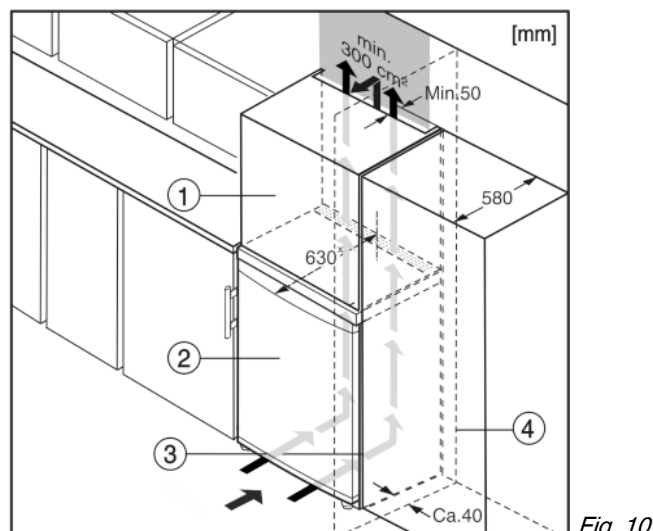

Fig. 10
The appliance can be built into kitchen units. A top cupboard Fig. 10 (2) can be added above the appliance in order to bring the appliance Fig. 10 (1) up to the height of the fitted kitchen units.
When installing with kitchen units (max. depth 580 mm), the appliance can be positioned directly next to the kitchen cabinet Fig. 10 (3). The appliance will project by 34 mm\* at the sides and 50 mm\* in the centre of the appliance in relation to the kitchen cabinet front.
If the appliance is installed with the hinges next to a wall Fig. 10 (4), the distance between appliance and wall has to be at least 40 mm. This corresponds to the projection of the handle when the door is open.